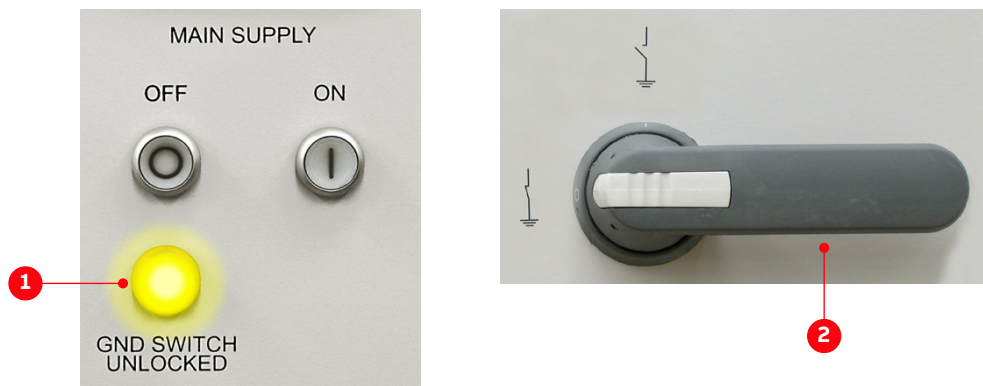

Figure 3-7: Grounding switch
Grounding the drive is only possible after the main power supply has been disconnected, and the DC link has discharged. When the voltage is below 50 V (DC), the lamp grounding switch unlocked (1 in Fig. 3-7) on the door of the control compartment lights up, and the grounding switch can be turned to position grounded (2 in Fig. 3-7).